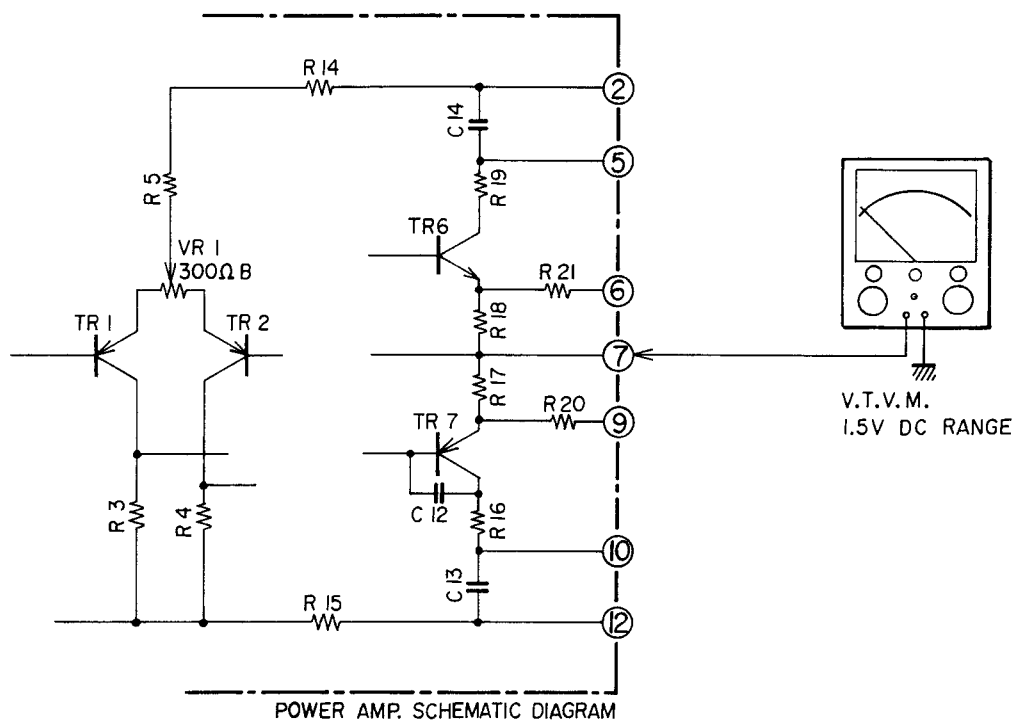

Fig. 5
3. ZERO ELECTRICAL POTENTIAL ADJUSTMENT (AA-5800, See Fig. 5)